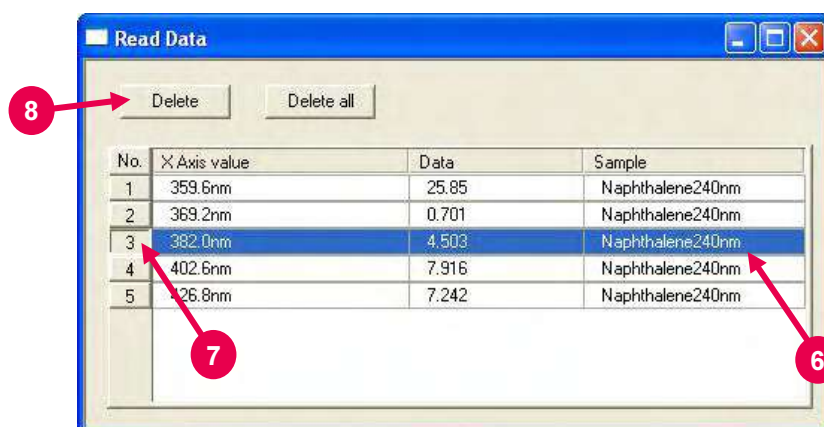

Fig. 7-59
- (7) Upon selection of "Read Cursor Data," display becomes as shown in Fig. 7-59.
- (8) In data reading from the data processing window, sample name information is also indicated. Sample names can be edited. For input, click the sample name column. (Refer to ⑥ in Fig. 7-59.)
- (9) The read data can be deleted. To delete a data value from the table, click the relevant No. (refer to ⑦ in Fig. 7-59). Then click the **Delete** button (refer to ⑧ in Fig. 7-59). A dialog box as in Fig. 7-60 will appear. Click the **Yes** button (refer to ⑨ in Fig. 7-60), and the data value will be deleted.